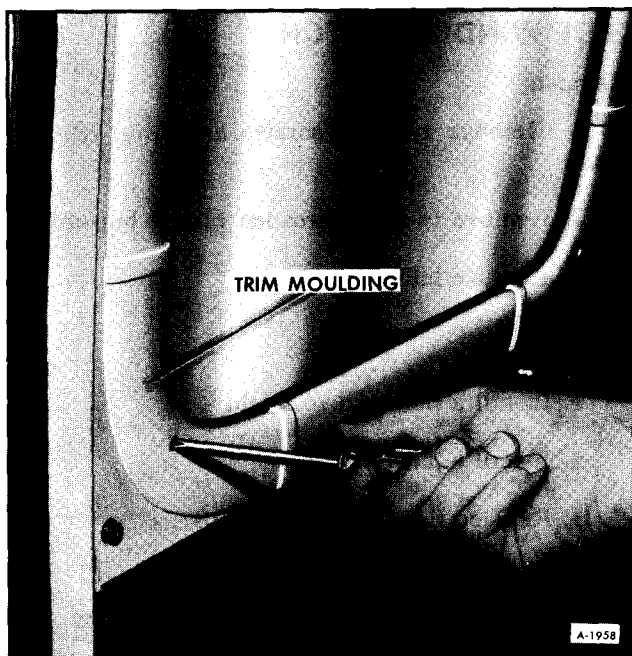

Figure 4—Removing Window Trim Moulding Screws
1. Remove trim mouldings as shown in Figure 4. "A" sash assemblies (sash assemblies in the drivers/-